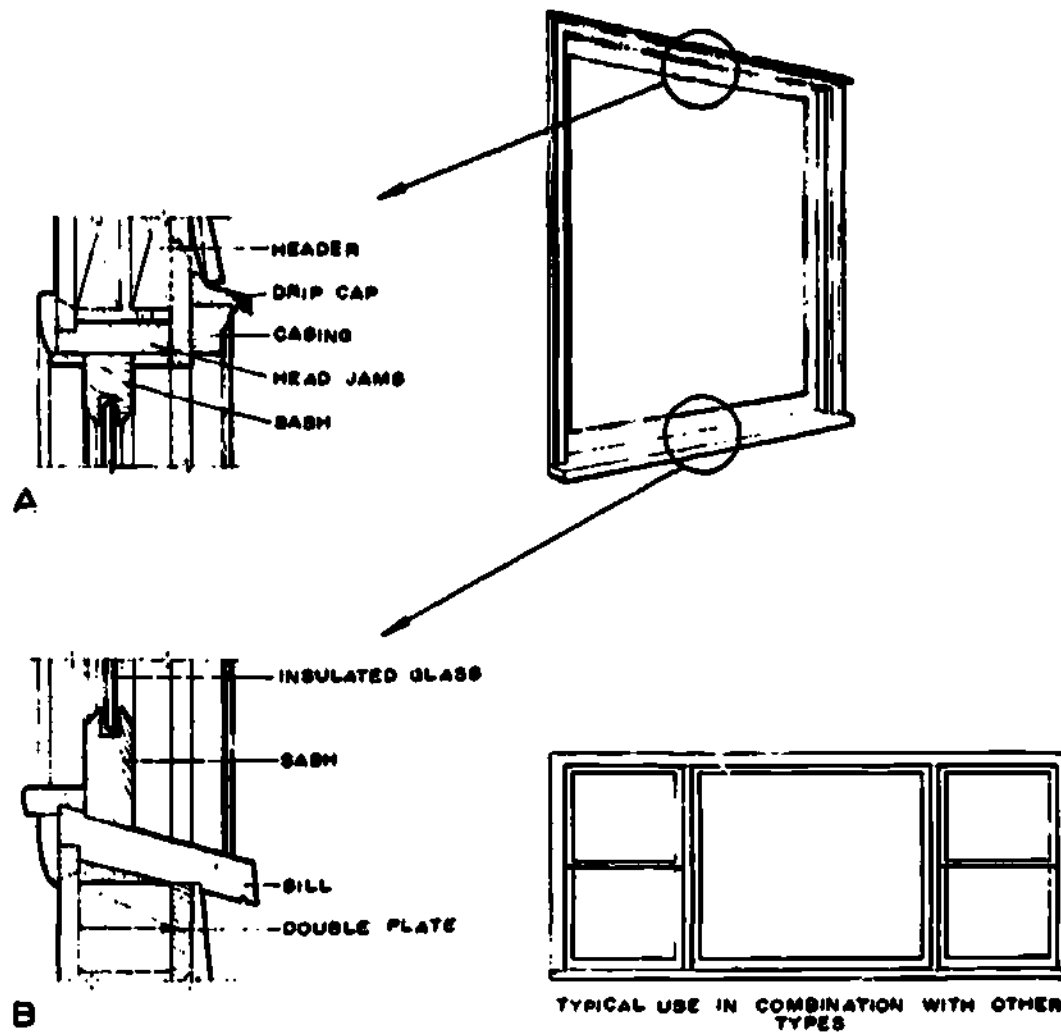

Fig 3-30. Stationary window details.
Details shown on stationary windows. Stationary windows used alone or in combination with double-hung or casement windows usually consist of a wood sash with a large single light of insulated glass. A stationary window with two (2) detail views is shown in figure 3-30. View A shows a section view of the head, and view B shows a section view of the sill. Also, shown in figure 3-30 is an illustration of a stationary window used in combination with two double-hung windows.